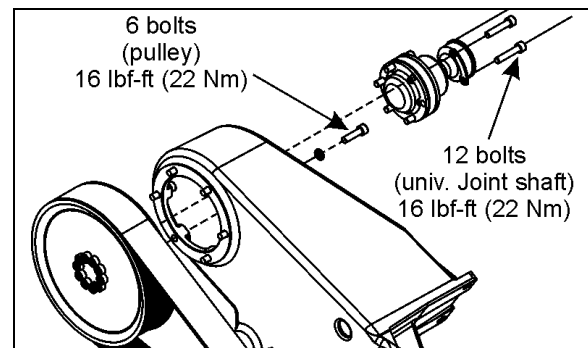

FIGURE 28: TIGHTENING SPECIFICATION
2. Dismount the drive pulley. Gain access to the 6 mounting bolts from behind the pulley, through the opening in the cast aluminum support (Fig. 28).
3. Unscrew and remove the universal joint shaft mounting bolts (6) at the right angle gearbox.